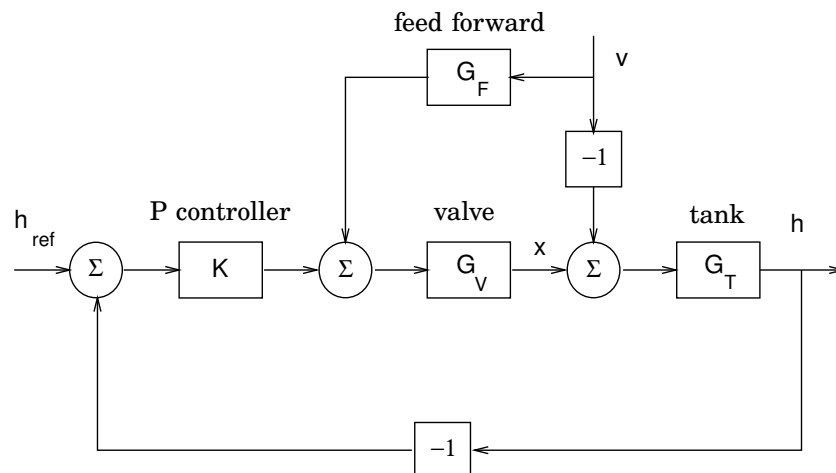

Figure 10.4 Block diagram of the level control system in assignment 10.4 (Extra).
10.4 (Extra) Figure 10.4 shows a block diagram of a level control system for a tank. The influx $x(t)$ of the tank is determined by the valve position and the outflux $v(t)$ is governed by a pump. The cross section of the tank is $A = 1 \text{ m}^2$.